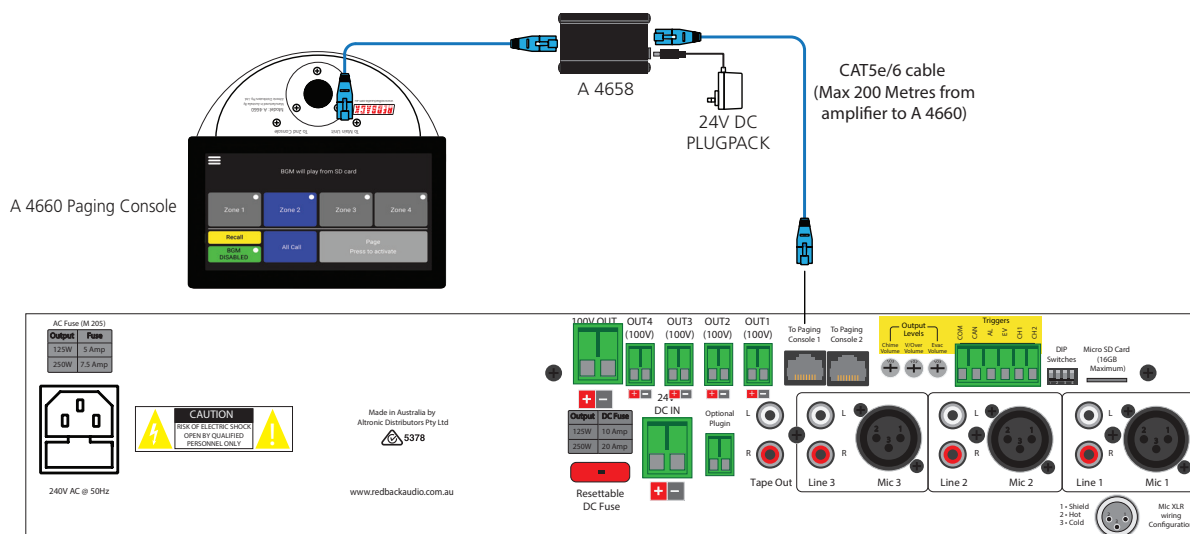

Fig 9
*Note: External power injectors (Redback ® A 4658) may be required if power problems are encountered from long cable runs. This is shown connected to the console in the example of figure 9.*
If power problems are encountered from long cable runs, an A 4658 power injector may be required. The console is connected to the A 4658 via standard Cat5e/6 cabling as shown in figure 9.